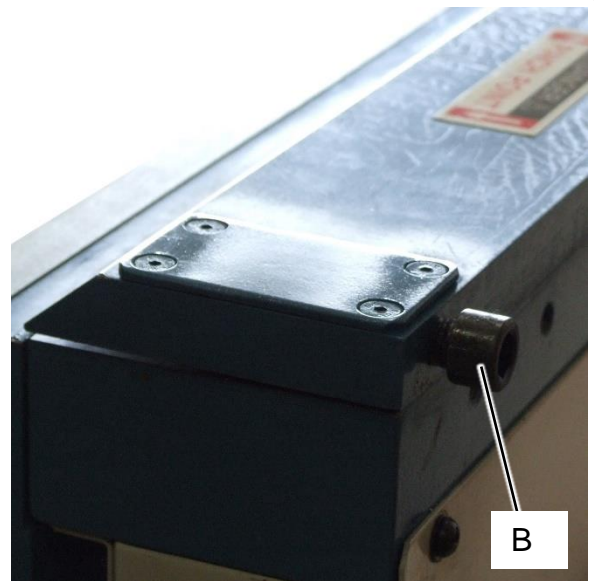

figure 8
8. Switch the toggle switch up to the "BEND" position and step down on the footswitch or press any one of the three GREEN start switches to apply the pre-clamping force. (See fig. 8)